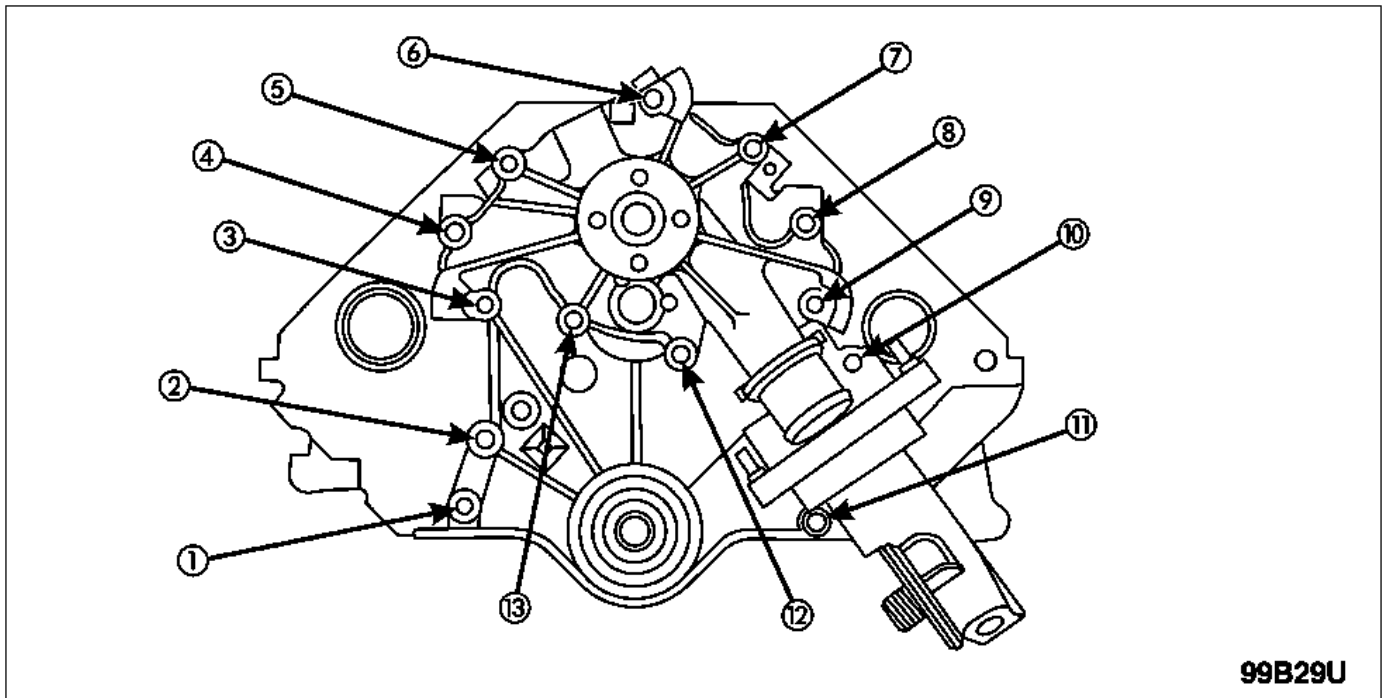

FIGURE 21
18. Tighten the front cover/water pump retainers in the sequence shown in Figure 21, to 28 Nm (20 lb-ft). Tighten the Allen head capscrew 11 to 22 Nm (16 lb-ft).